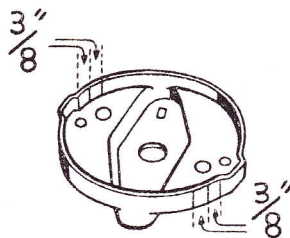
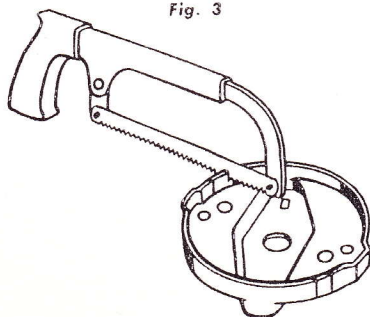
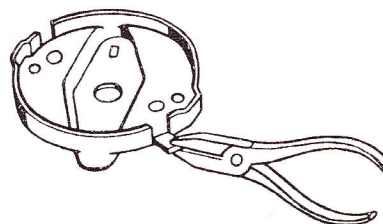
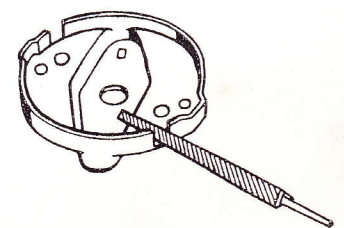

Fig. 3
Fig. 4
Fig. 5
Fig. 6
7. Measure $\frac{3}{8}$ " from indentation on pulley towards the point where the pawl touches outer edge (Fig. 3). Mark and cut edge with hacksaw down to base of cup (Fig. 4). Measure $\frac{3}{8}$ " further and mark and cut with hacksaw in similar manner. Use pliers and snap out metal between these cuts (Fig. 5). File rough edges off with file (Fig. 6).